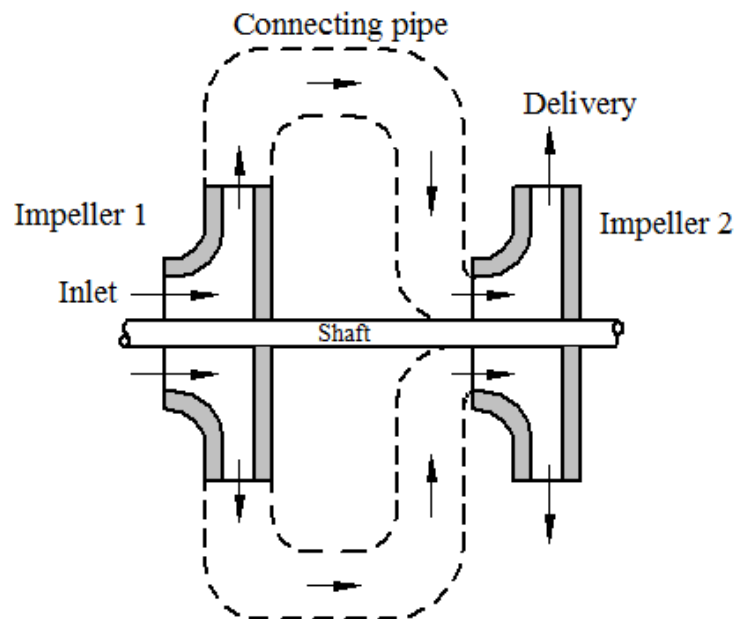

Fig. 6.9 Two stage centrifugal pump
**Answer:** If the centrifugal pump consists of two or more impellers connected in series on the same shaft, then the pump is called multistage pump. The water enters the impeller 1 of a multistage pump with two impellers as shown in figure 6.9 and pressure increases in it. The high pressure water from impeller 1 is then entering the impeller 2 where the pressure increases further. The flow generally is same in both the impeller. The head produced by the combined impellers will be higher than either of one, but need not be sum of them. If „n“ be the number of identical impellers and each produce a head of  $H_m$ , then the total head produced is given by  $H_T = nH_m$ .